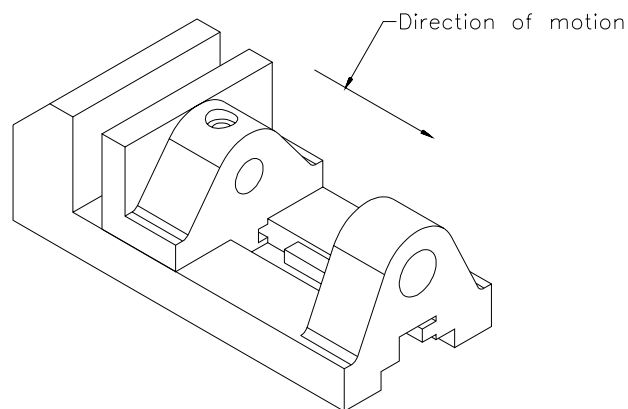

Figure 11-61 Direction in which the Vice jaw will be moved
2. Select Vice jaw and drag the cursor to move it in the direction as shown in Figure 11-61.